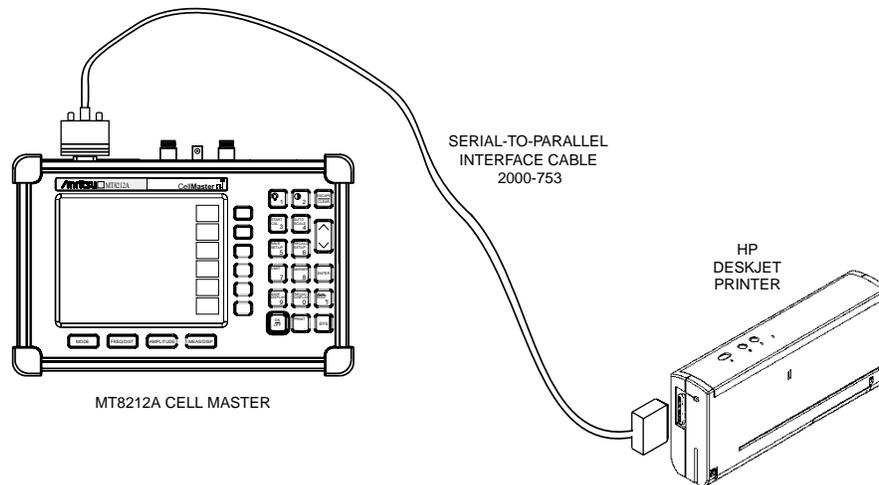

Figure 3-4-. Cell Master Printer Setup
**Step 1.** Connect the printer as shown in Figure 3-4.